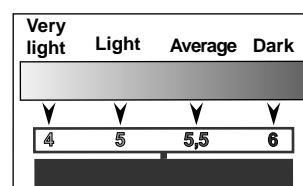

Fig. 11
To obtain the “average” temperature for your toast, set the (E) handle onto 5,6. For darker toast, set knob a-half-setting higher (6), while if lighter toast is preferred, set the knob a-half-setting lower (5) (fig. 11).